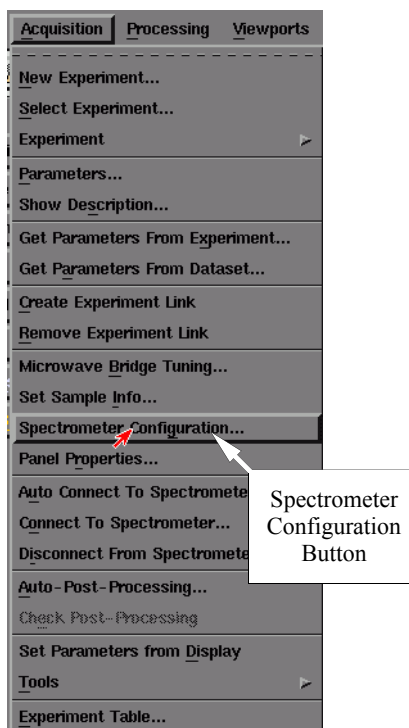
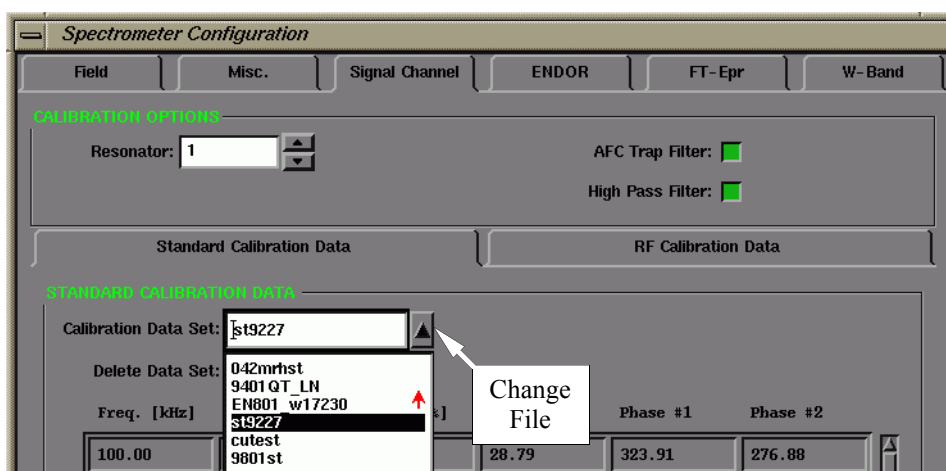

Figure 5-28 The Spectrometer Configuration button.
Figure 5-29 Selecting a calibration file.
3. **Read in the calibration file for the cavity.** Click Acquisition in the menu bar and then click Spectrometer Configuration. (See Figure 5-28.) The Spectrometer Configuration dialog box will then appear. (See Figure 5-29.)